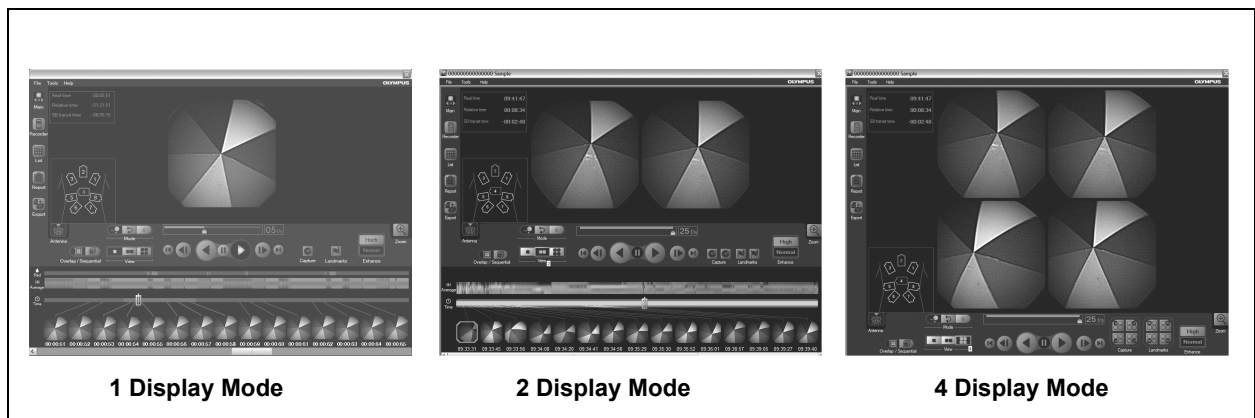

Figure 6.22
- In the “2 Display Mode”, the image on the left side is 0.5 second older than the image on the right (see Figure 6.22).
- In the “4 Display Mode”, the images shown in the upper left, upper right, and lower right are 1.5, 1.0, and 0.5 second older than the image on the lower left, respectively (see Figure 6.22).